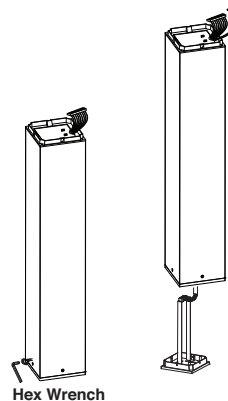

Fig. 5
4. Disassemble the fixture by loosening the set screws x3 with hex wrench. (Fig 5)